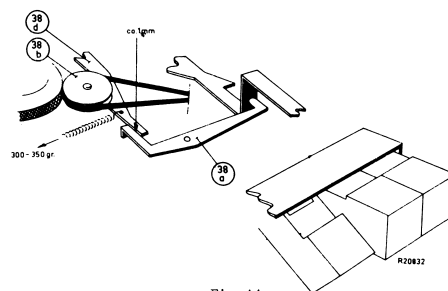

Fig 44
- When the key for rewinding is depressed a play of approx. 1 mm should be present between lever 38a and operation bracket 38d of the rewind roller, see fig. 44. Tension spring 10 should pull roller 38b against the reel disc with a force of 300-350 gr (see fig. 44).